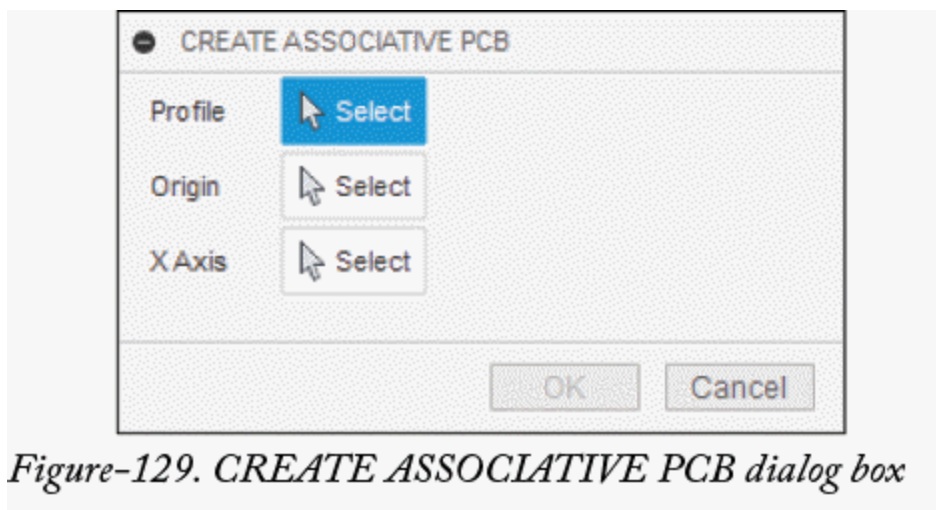

Figure-129. CREATE ASSOCIATIVE PCB dialog box
- Specify desired name and location for the file and click on the **Save** button. The **CREATE ASSOCIATIVE PCB** dialog box will be displayed; refer to Figure-129.